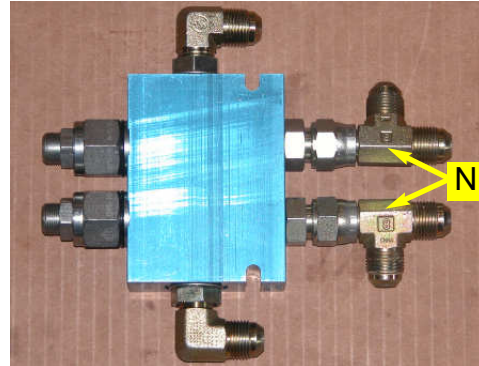

Figure 5b. Assembled counter-balance valve block.
- b. Install the run tees (**N**) to the straight adapters. (Figure 5b.)